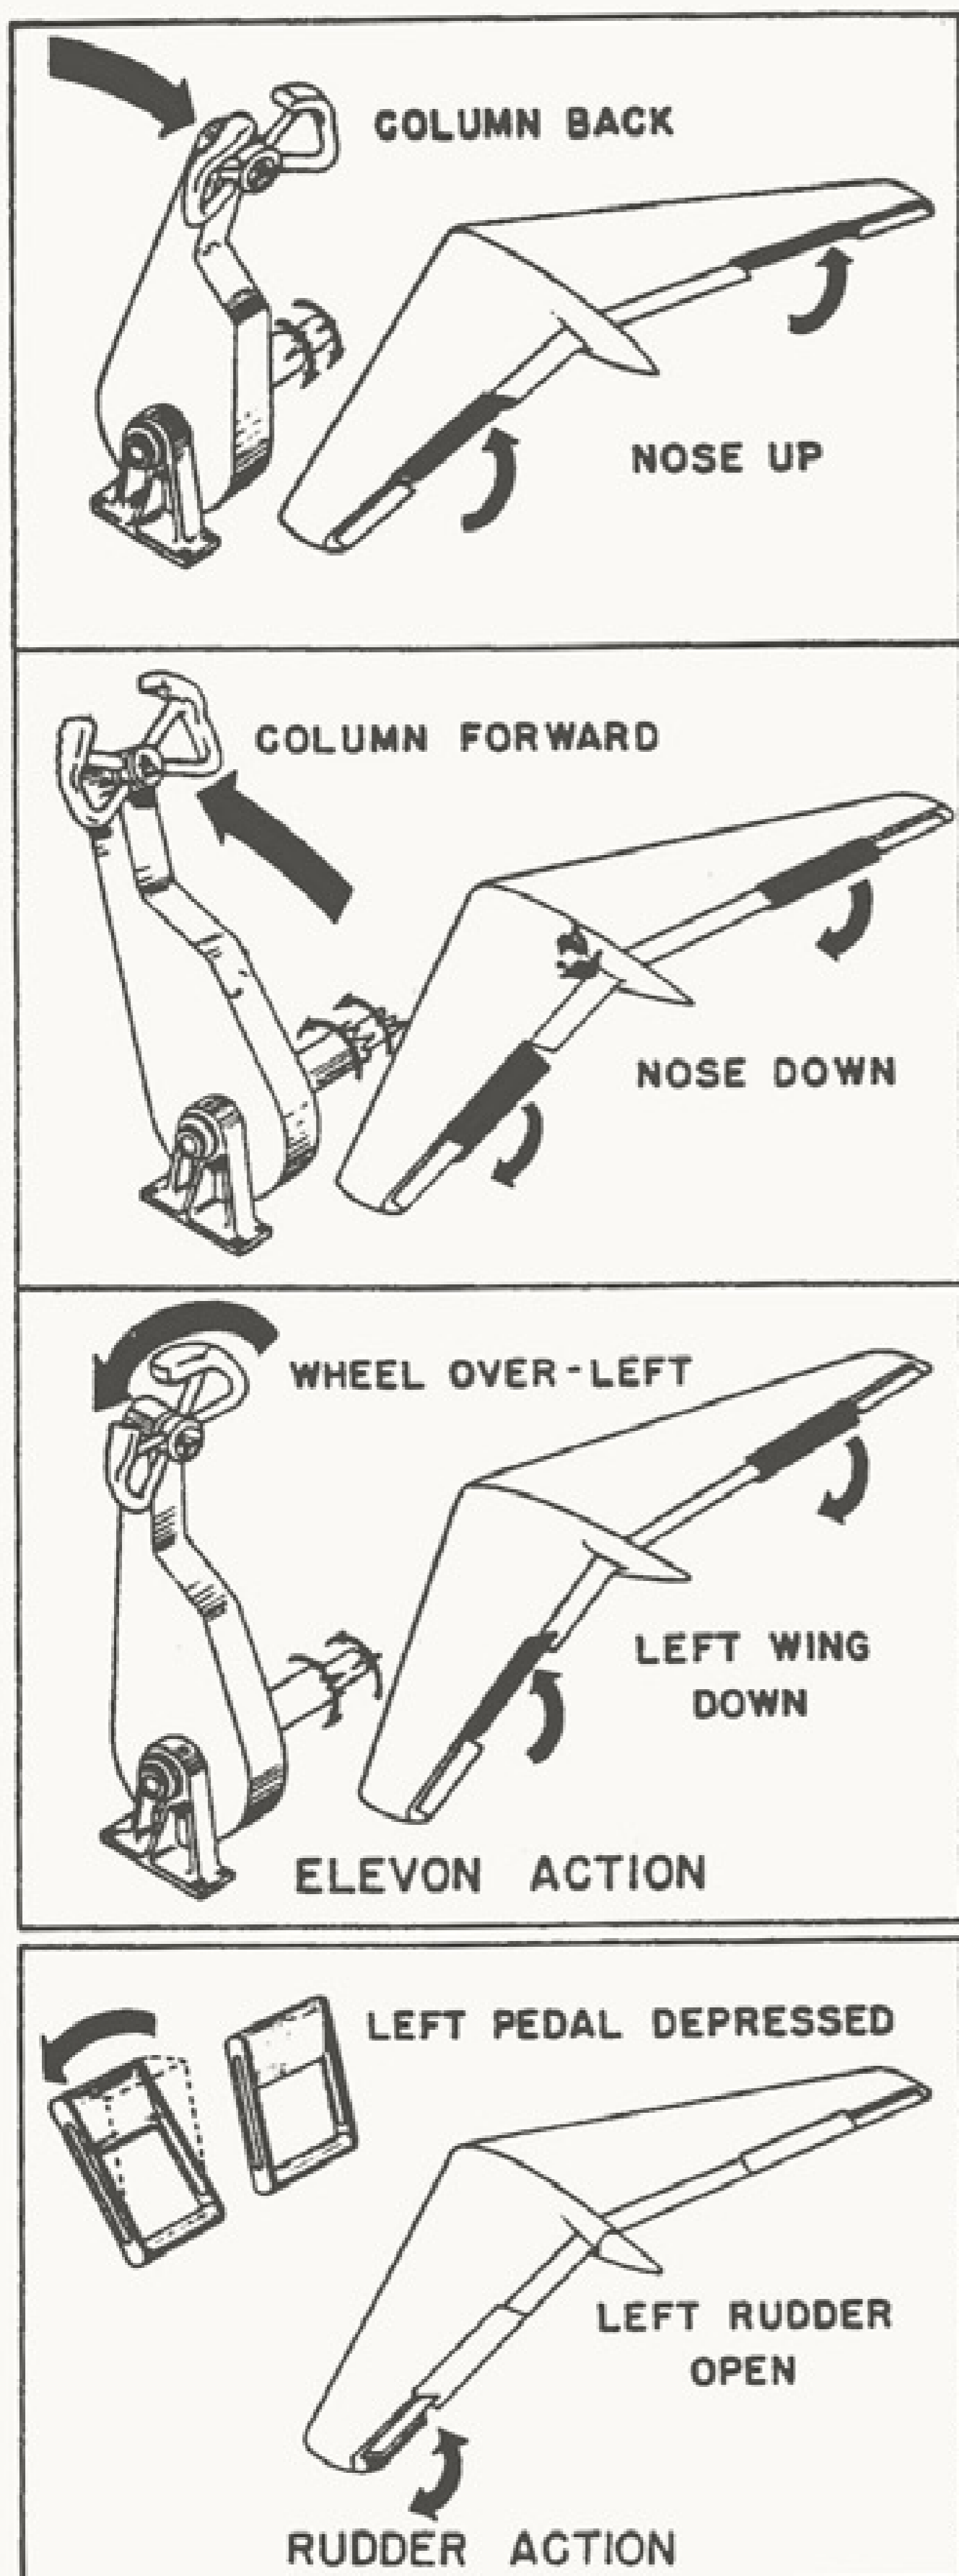

Figure 4. Elevator and Rudder Action
and aft movement of the column moves both elevons together as a conventional elevator and turning the control wheel moves the elevons in opposite directions, in a manner similar to conventional ailerons. Operation of the control column and wheel may be made individually or in combination as illustrated in figure 4. Simultaneous movement of the control column and wheel produces a combined elevator and aileron action.
6. RUDDERS. (See figure 4.)- A hydraulically-actuated, double split-flap type rudder is attached to each trim flap. The rudders move with the trim flaps when the trim flaps are used to trim the airplane but they operate independently of the flaps for directional con-